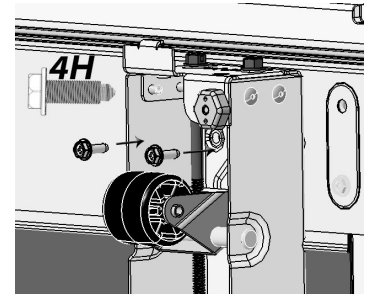
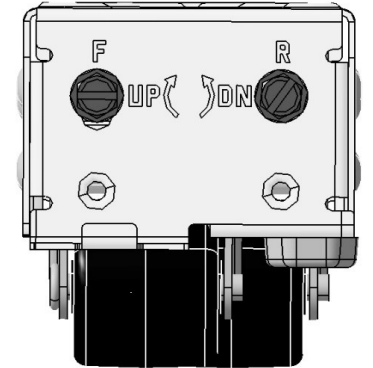

Fig. 5
Fig. 6
- c. Using the 4H bolts from step 1, fasten the front of the Leveler Assembly to the refrigerator/freezer using a $\frac{5}{16}$ " nut driver (Fig. 5). For steps 3b and 3c, if you need more space for the nut driver clearance, rotate the bolt labeled "F" clockwise (Fig. 6) using a flathead screwdriver or a $\frac{3}{8}$ " socket wrench.